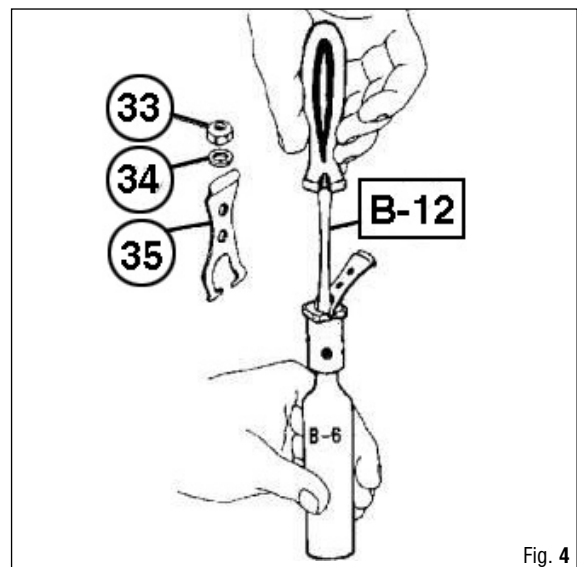

Fig. 4
7. Correctly position the demand lever (35) in the groove of the 2nd stage case (32).
8. Place the washer (34) on the valve stem, and tighten the adjusting nut (33) a few turns using the special wrench (B-20) (Fig. 4).